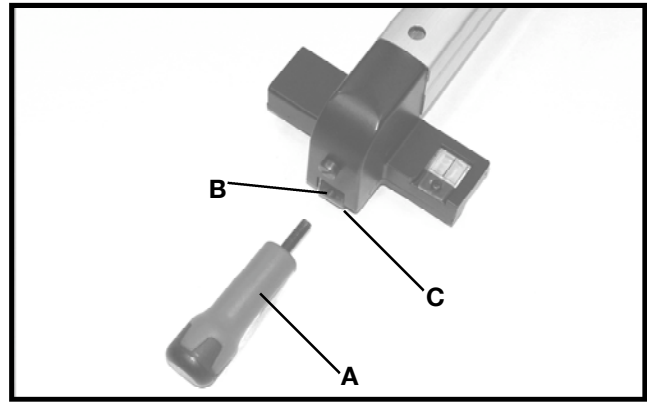

Fig. 21
1. Thread handle (A) Fig. 21, into tapped hole (B) in fence cam (C).